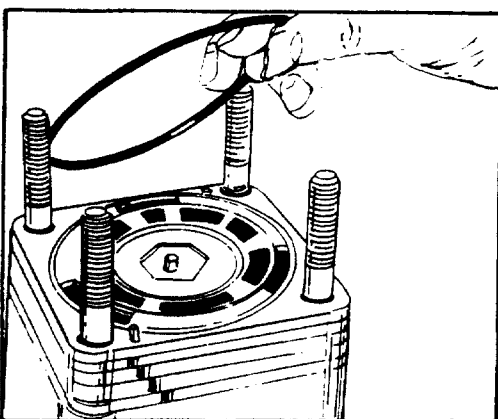

FIGURE 84.
35. Apply clean grease to the valve ring seal ring (3). Install seal ring in the valve ring (12). See figure 84.